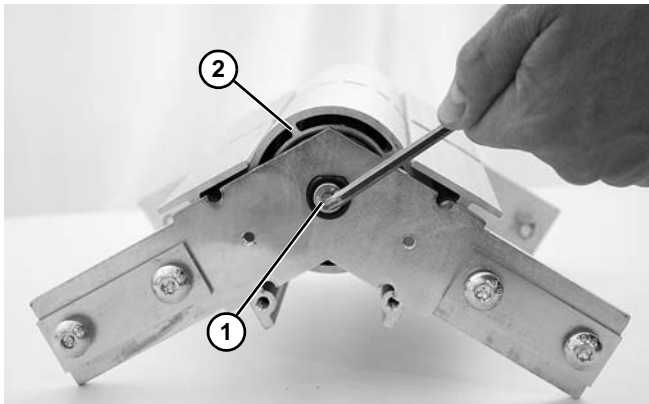

Figure 97
6. Remove screw and washer (Figure 97, item 1) from both sides of knuckle assembly. Slide spindle assembly out of knuckle bearing plate (Figure 97, item 2).